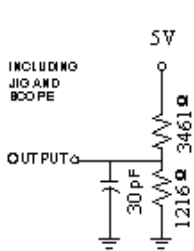

FIGURE 1A
5. Test conditions assume signal transition times of 5ns or less, timing reference levels of 0.5V_{CC}, input pulse levels of 0V to V_{CC} and output loading specified in Figure 1A.
9. Test conditions assume signal transition times of 5ns or less, timing reference levels of $0.5V_{CC}$, input pulse levels of 0V to V_{CC} and output loading specified in Figure 1A.